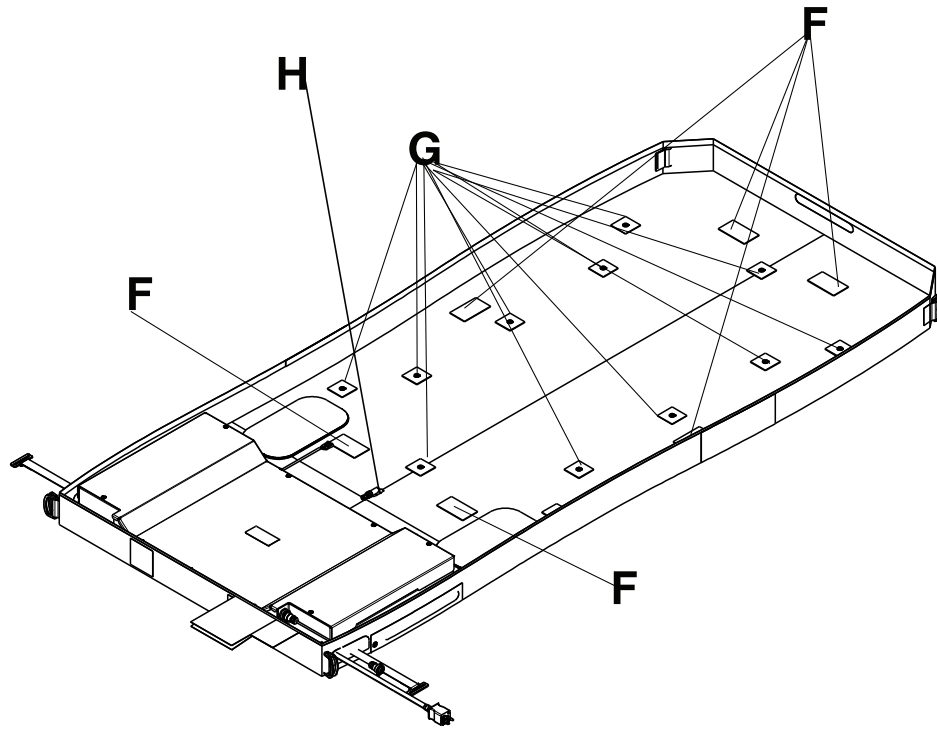

Figure 4 – Pod Velcro® and snap retainers
17. Starting at the head end of the support surface, separate the six **Velcro®** patches from the bottom cover (F) (Figure 4).
18. In a gentle motion, unsnap the twelve snaps and separate the **Velcro®** from the left and right sides of the turn bladder (G) (Figure 4).
20. Disconnect the exhaust tube quick disconnect (H) from the bladder assembly (Figure 4).